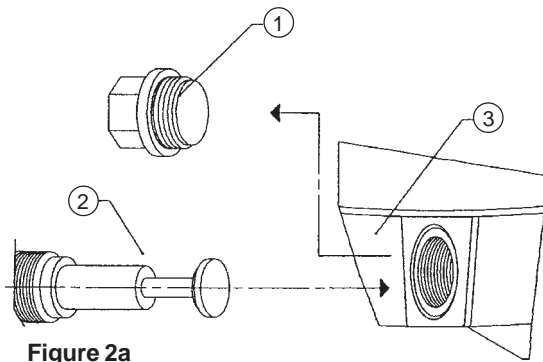

Figure 2a
2. Remove sealing plug 1 (figure 2a).